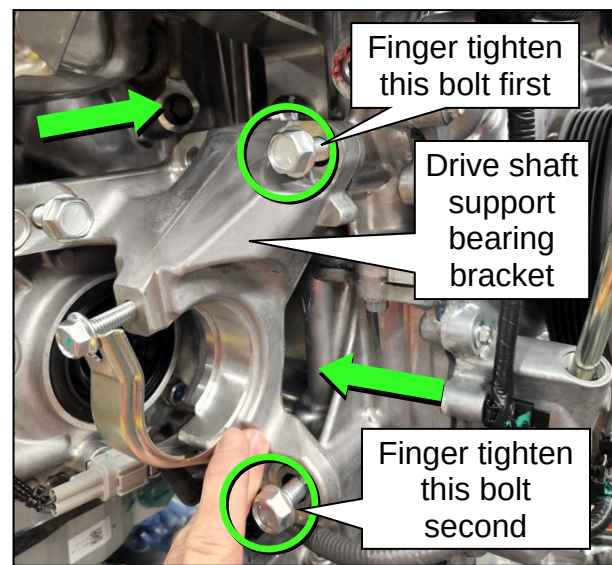

Figure 9
1. Place and hold the drive shaft support bearing bracket into position, ensuring it is flat against the engine block and transfer assembly, and loosely install the bolts (Figure 9).